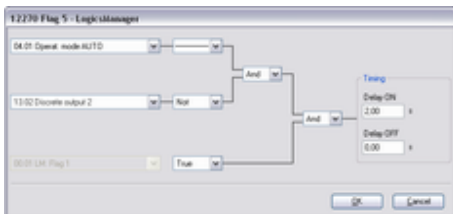

Fig. 209: LogicsManager function "Flag 5"
- ➔ Configure the LogicsManager function "Flag 5" as shown in (Fig. 209).